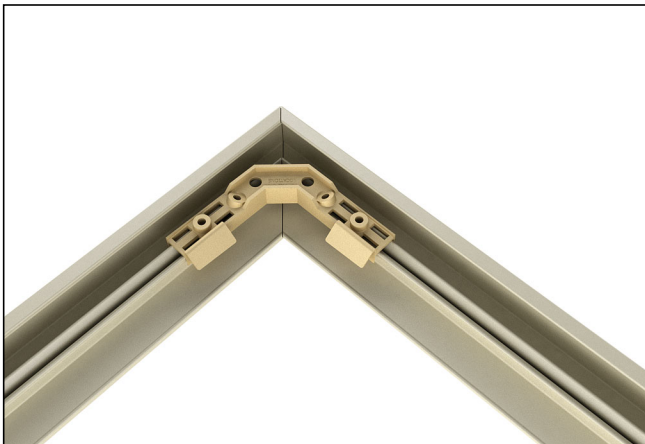

Figure 6
1. Test fit casing parts on flat surface with included corner keys without screws to verify assembly. See *figure 6*.